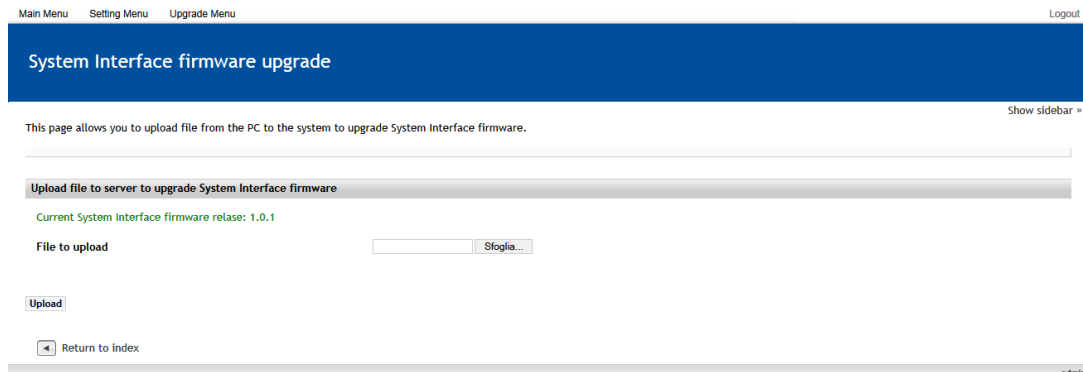

Figure 29: System Interface firmware upgrade
- select the file to load, which has the format: *hv-adaptos_sys_x.y.z-date.bin* and click on the *Upload* button as shown in **Figure 29**;